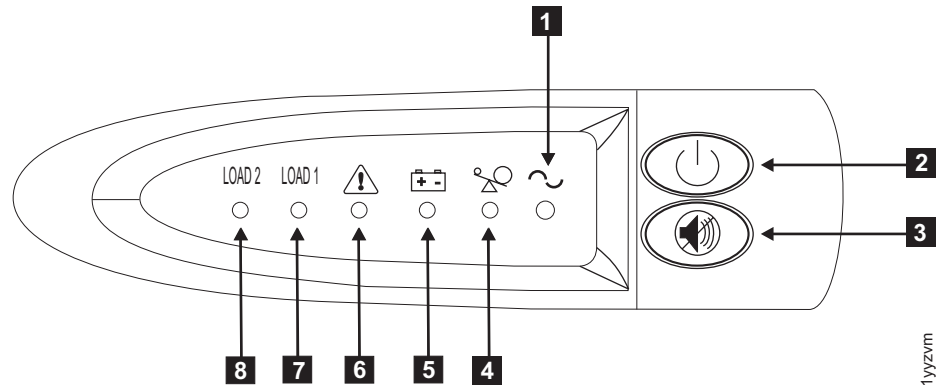

Figure 147. Power switch and indicators of the 2145 UPS-1U
12. To turn the 2145 UPS-1U on, press and hold the on/off button **2** until the power light is extinguished (approximately five seconds). See Figure 147 on page 363. The 2145 UPS-1U undergoes a self-test before the power-on indicator **1** and the load indicators (**7** and **8**) light up to indicate that